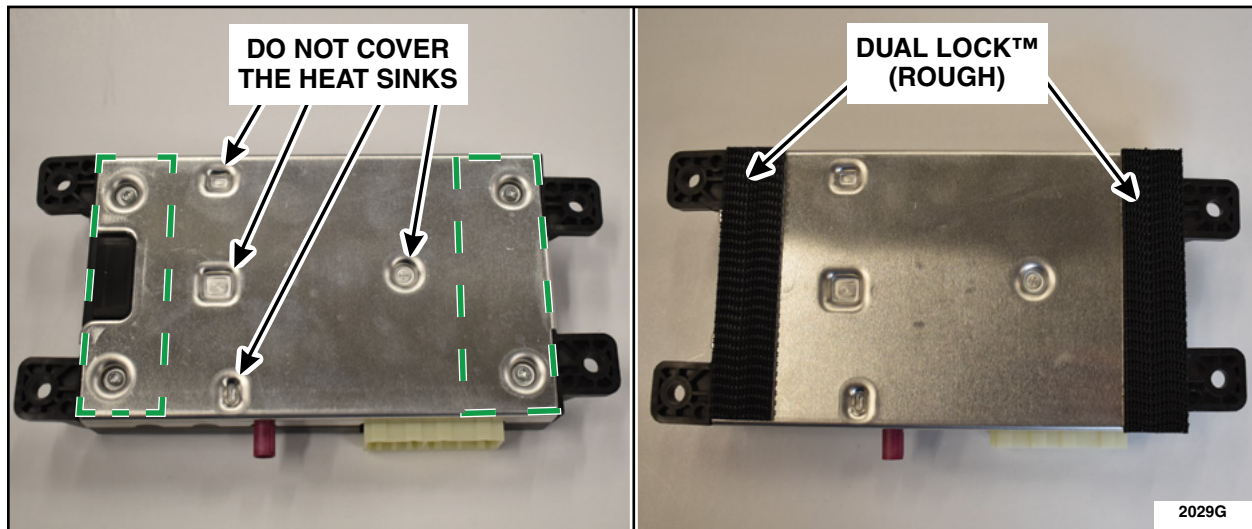

FIGURE 6
8. TCU Preparation. See Figure 6.